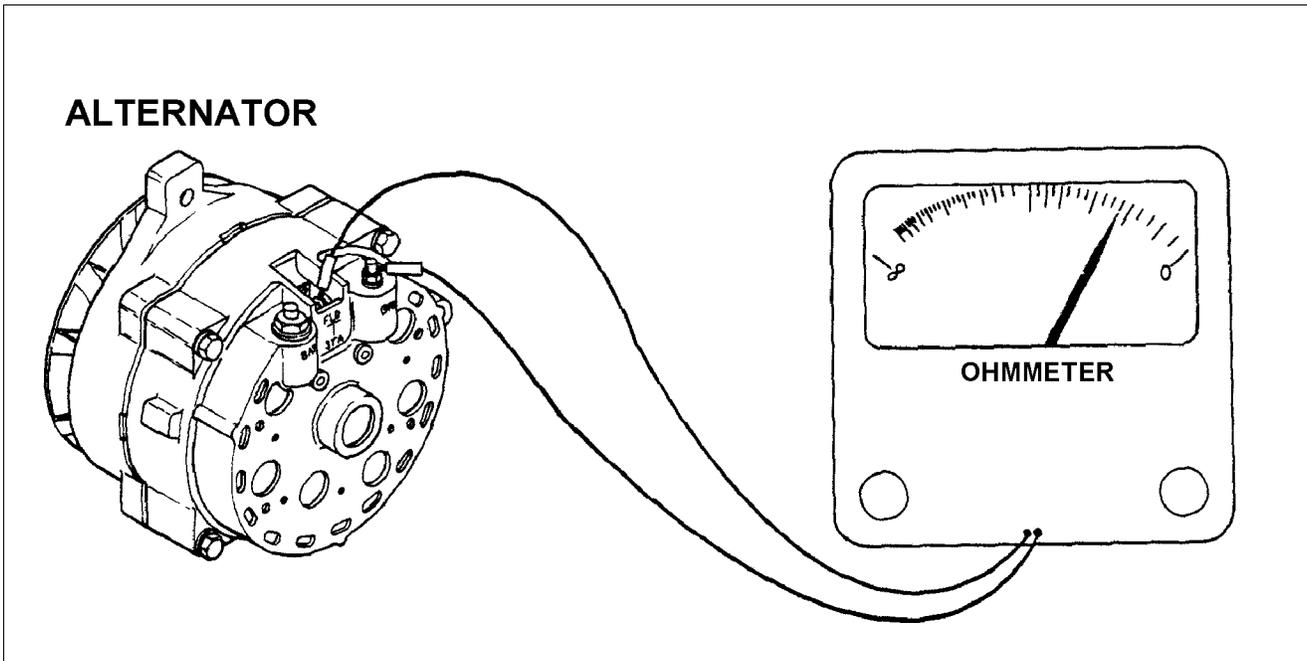

Figure 24-7. Stator Ground and Negative Diode Test
- (1) Set the ohmmeter selector switch to resistance scale 10 and zero the meter.
- (2) Attach one ohmmeter lead to BAT terminal and the other to the STA (Stator) terminal. A reading of 60 ohms should be obtained. Reverse leads. An infinite (no needle movement) should be obtained.
- (3) A reading of 60 ohms or less in *both* directions indicates:
- (4) Infinite reading (no needle movement) in *both* directions indicates an open STA terminal connection.
b. Stator Ground and *Negative* Diode Test (Refer to Figure 24-7)